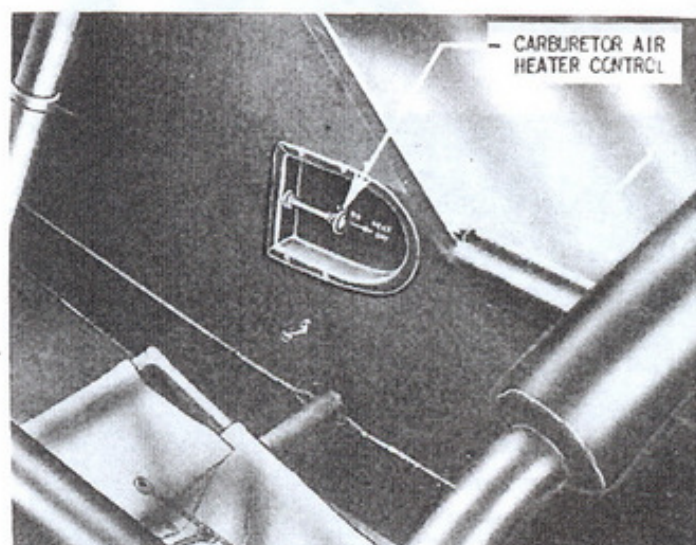

Figure 10 - Right Side of the
c. The Right Side. (See figure 10.) - The only control on the right side of the cockpit is the carburetor air heater. It is recessed near the door. Pushing forward applies the heat. When the control is fully forward, the heater is at its maximum. A valve in the air box below the carburetor permits taking heated air from the exhaust manifold shroud into the carburetor. The use of the carburetor pre-heater is necessary to prevent chilling or to remove the ice formation in the carburetor and around the throttle valve, but causes loss of power and therefore should be used only when necessary. Pull back the control as far as possible in order to shut off the heater completely.
b. Be sure carburetor air heater is off. (See figure 10.)
b. Should tachometer (figures 8 and 9) begin to fall unduly, push on carburetor air heater full (figure 10), as apparently the air entering the carburetor is too cool and moist and the carburetor may be icing. The tachometer should recover to approximately 50 rpm below normal. Then the carburetor air heater should be pushed off. If the troubling condition has been eliminated, the rpm will rise to normal. If not, repeat. It is more efficient to run the engine without the carburetor air heater. Therefore use only when absolutely necessary.